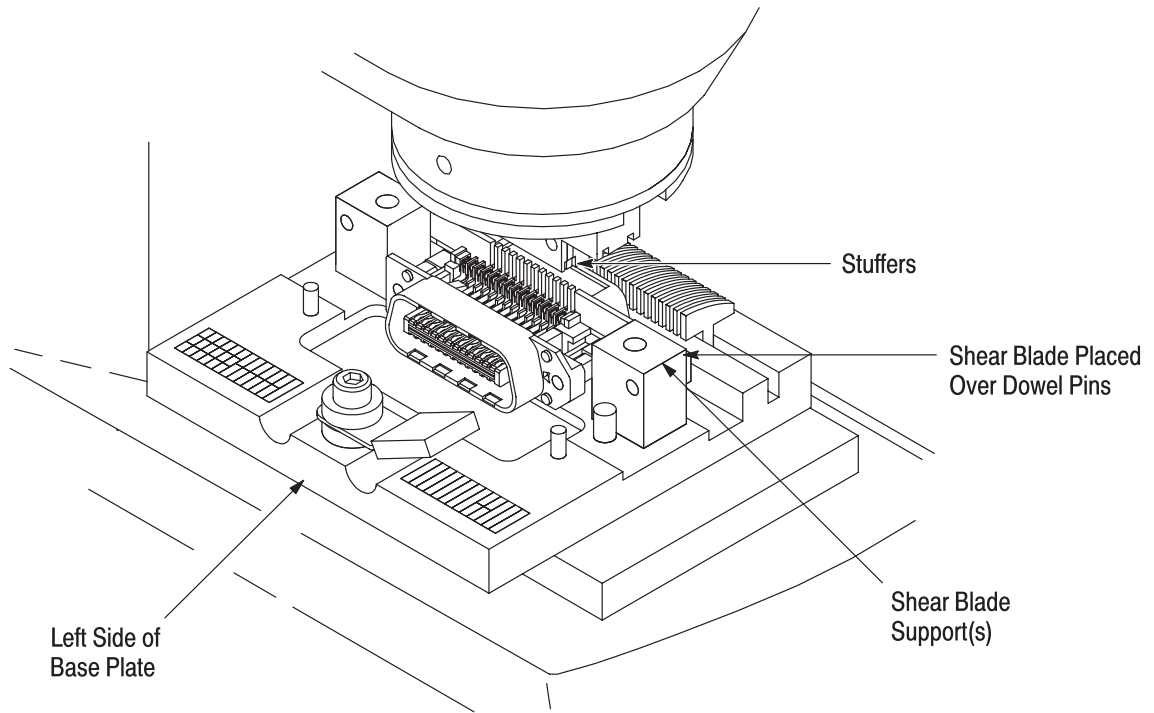

Figure 4
6. Check the alignment of the upper and lower tooling by rotating the lower tooling 180° to the terminating position. The lower tooling must be directly under the upper tooling as shown in Figure 4.
7. Place the shear blade over the dowel pins as shown in Figure 4.